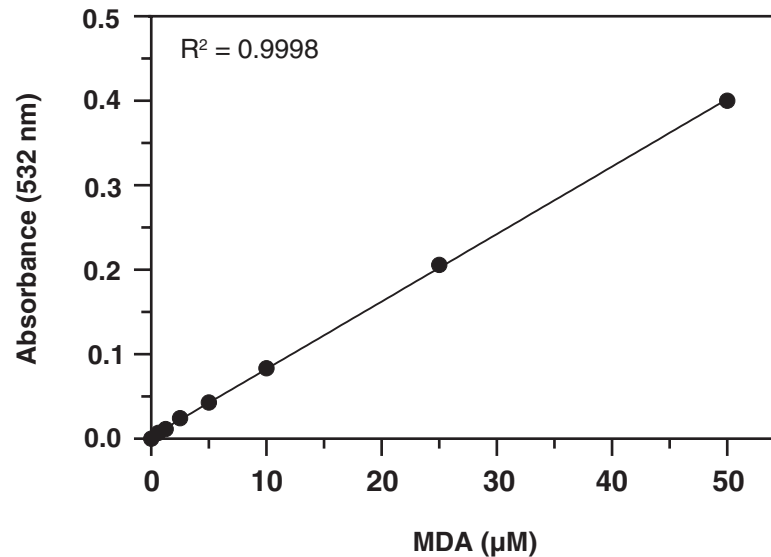

Figure 3. MDA colorimetric standard curve
4. Calculate the concentration of MDA for each sample from the standard curve. Examples of the MDA standard curves are shown on pages 17-18 in Figures 3 and 4.